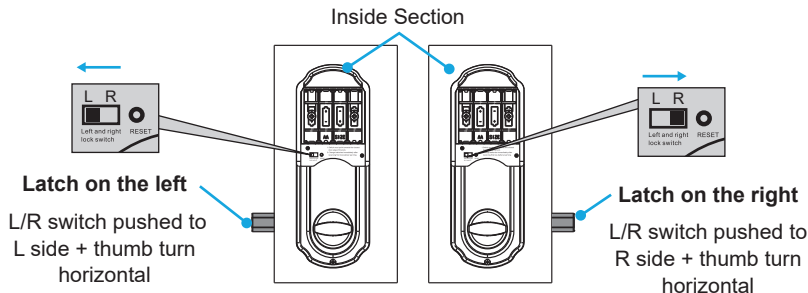
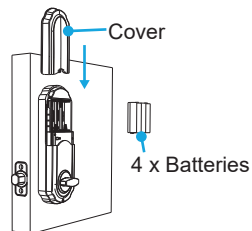

Fig. 10
Fig. 11
Step 7. Adjust the L/R switch as needed (Fig. 10), and add the 4xAA batteries or rechargeable batteries into battery compartment. Then slide the cover down over it (Fig. 11).